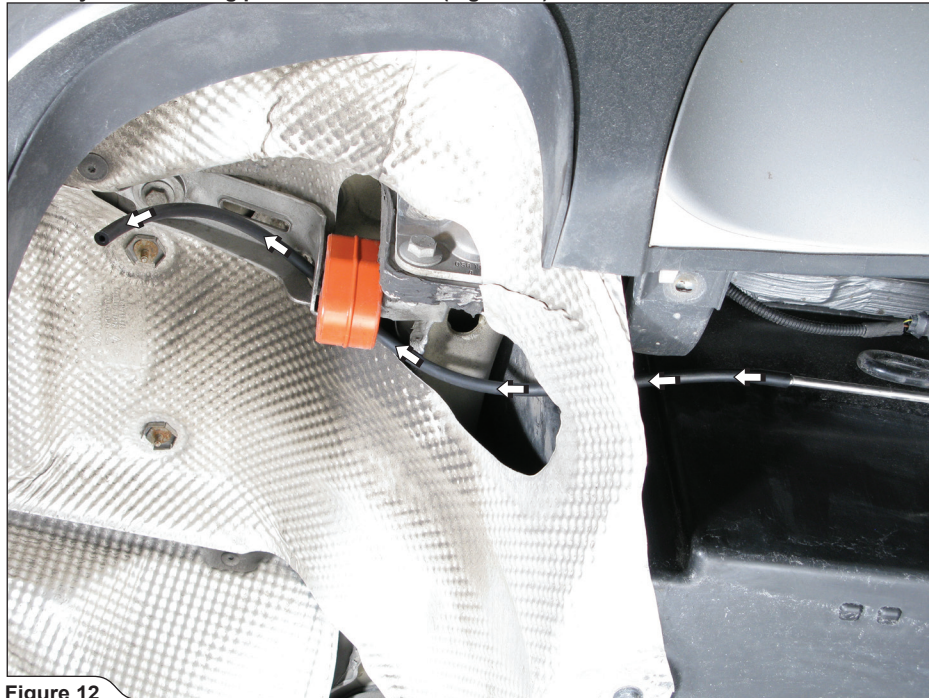

Figure 12
1. **For vehicle models equipped with original exhaust system flaps only:** direct the vacuum rubber hoses from Akrapovič installation kit, exactly as shown (Figure 12, 13).
! WARNING: direct and secure the rubber vacuum hose in such a way, that it doesn't touch any hot or moving parts of the vehicle (Figure 12)!